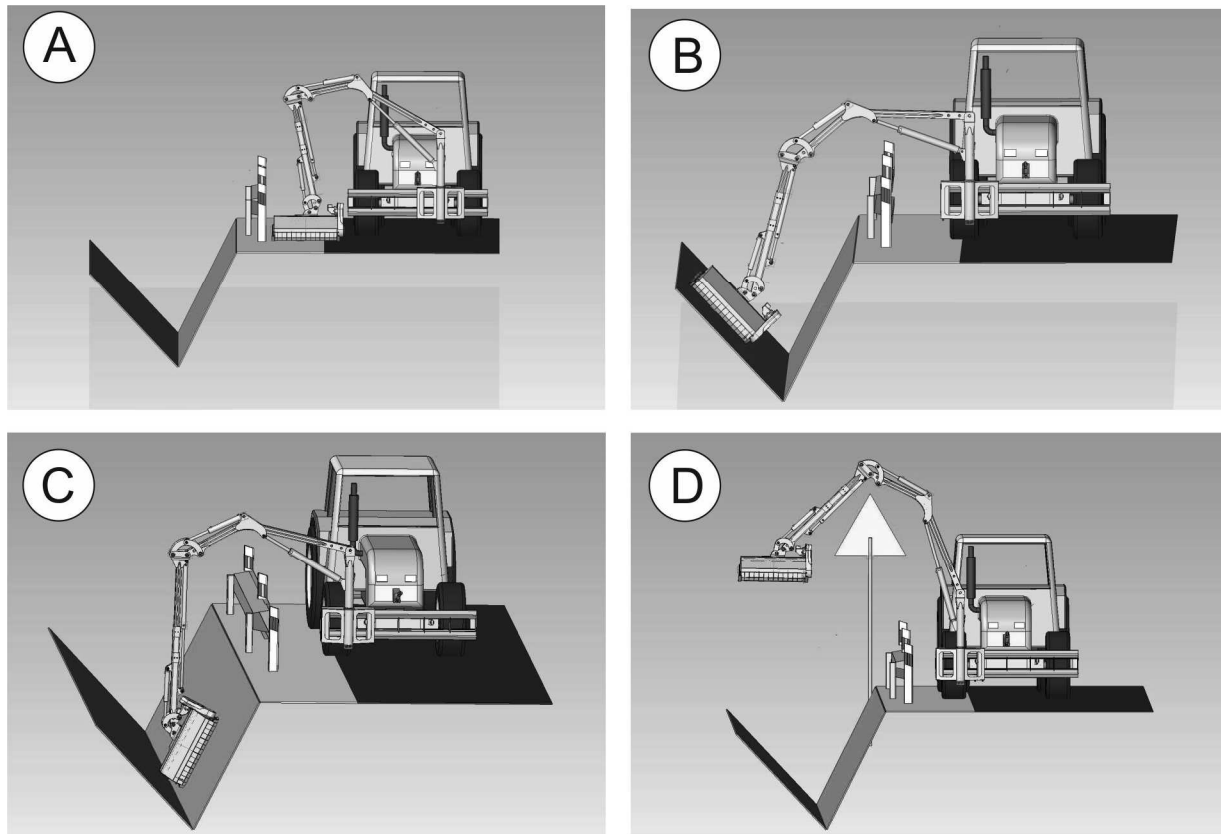

FIG. 4.4 **Setting the cutting head in working position**
- controlling appropriate hydraulic circuits in the tractor, set the arms of the multifunction arm so as to place the cutting head in the mowing area (FIGURE 4.4)